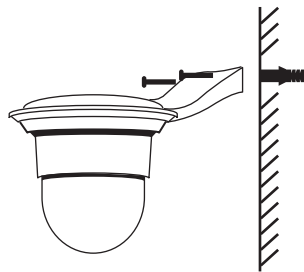

Fig 4
5. Use two Ø3.5_25mm screws to install and secure the pan camera to a desired location as shown in Fig.4.